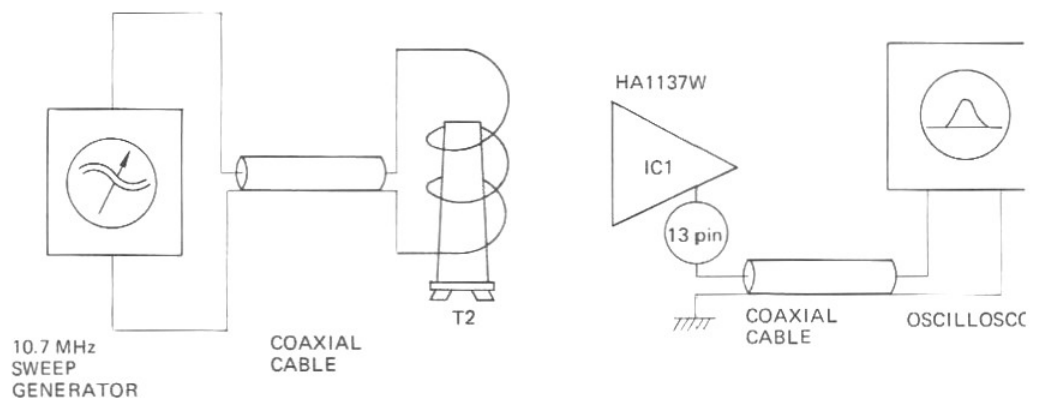

Figure 3.
- 1) Couple the output of the sweep generator to T2 (RF Transformer) through a coupling cable (Figure 3 (A)).
- 2) Connect the detector probe to the pin 13 of IC1 and "G" (ground) as shown in Figure 3 (B). The hot lead of the probe should be made as short as possible and the ground lead should be connected to chassis ground.